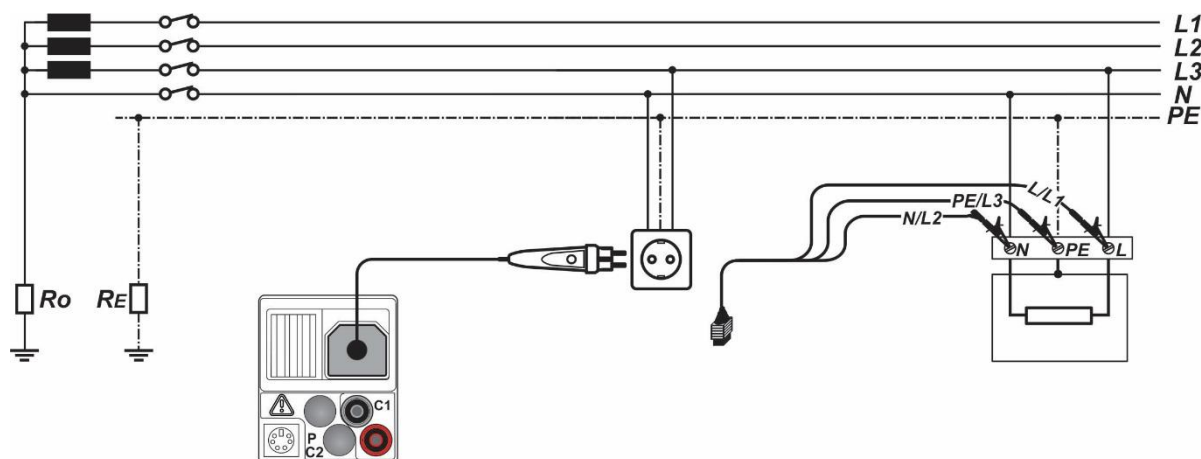

Figure 5.61: Connection of plug commander and 3-wire test lead
- ❑ **Connect** test leads to the item to be tested (see *Figure 5.61*).